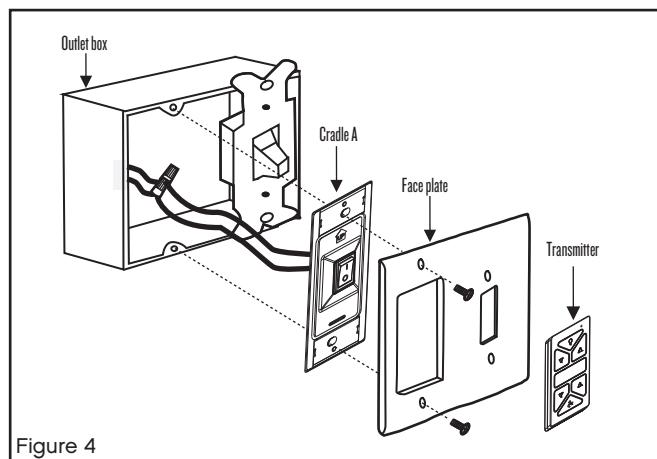

Figure 4
- 2 Connect the black lead wires from the switch in cradle A to the black wires in the switch box. Hot input wire to one of the cradle switch leads. Power lead to the fan is connected to the remaining switch lead. (Fig. 4)